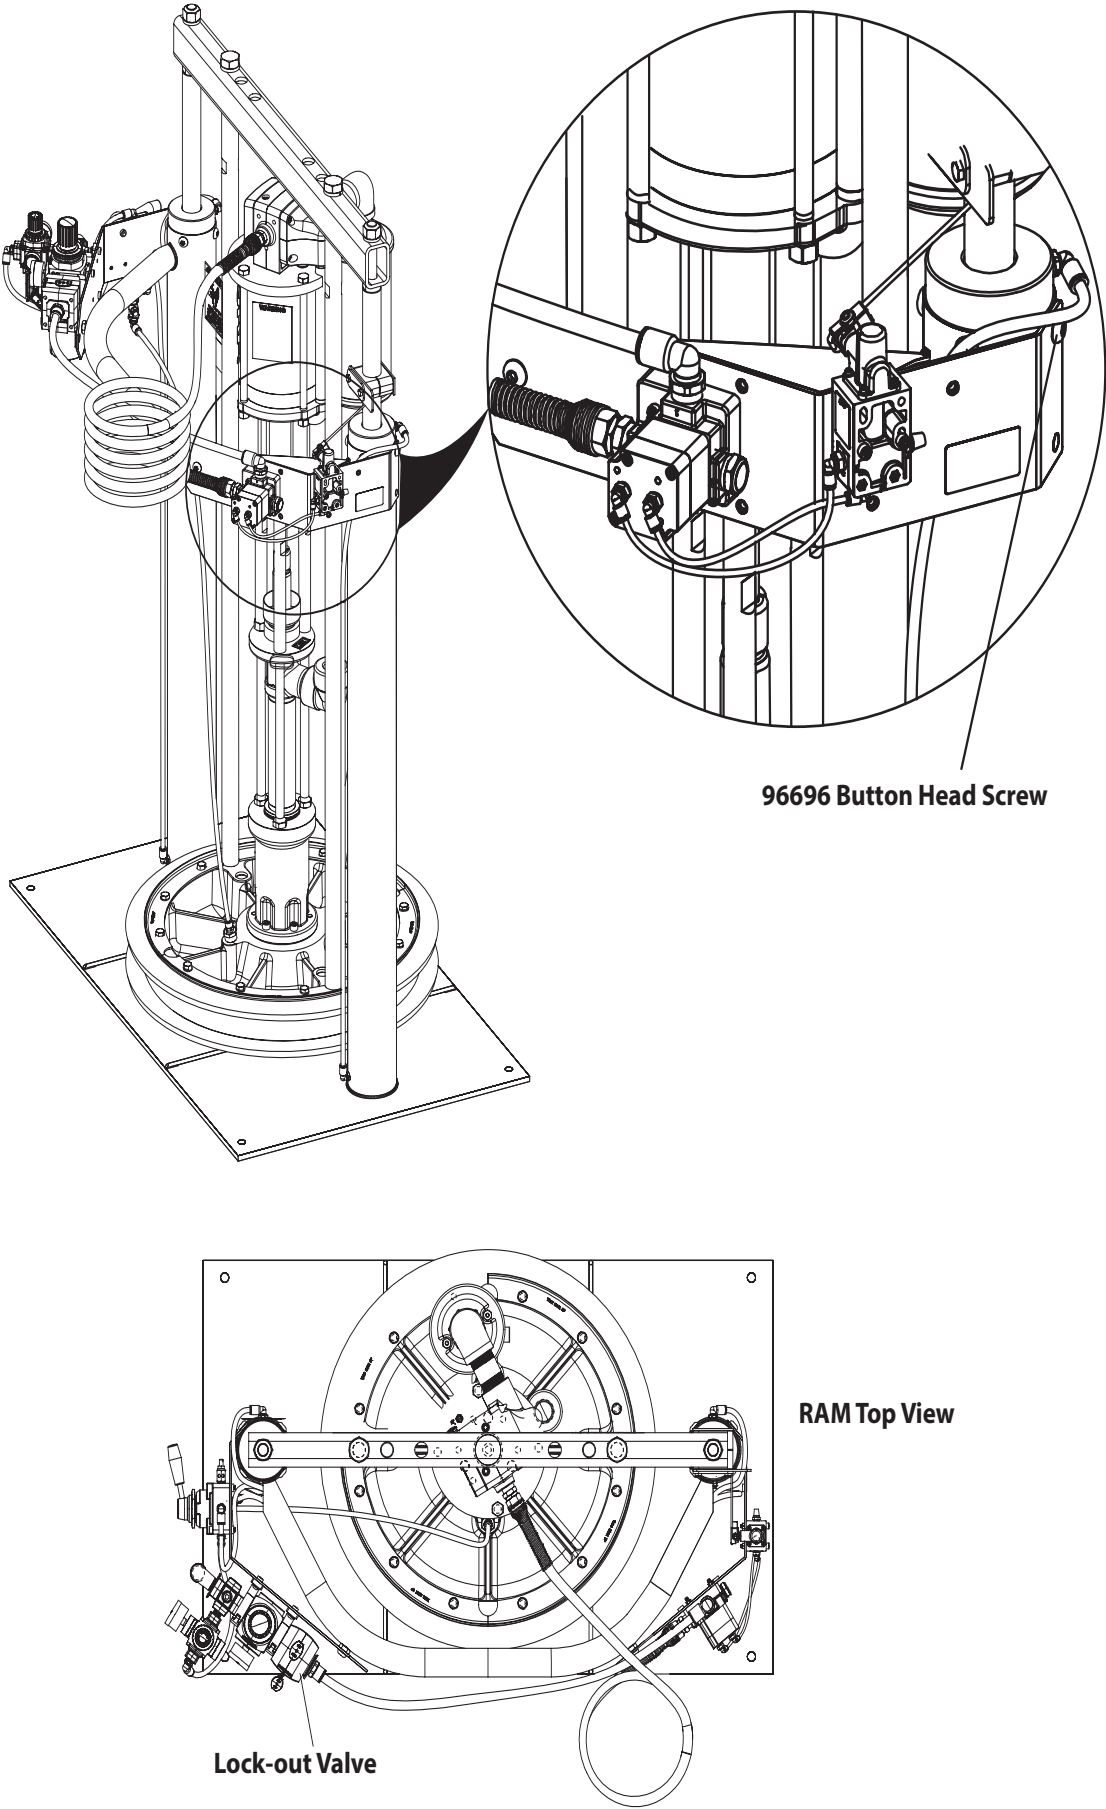

Figure 7
These kits are mounted on the side of the RAM that does not have the Controls (see figure 7, page 5).
2. Attach kit to Ram using (5) Button Head Screws (see figure 7, page 5).
5. Attach the (4) Connector to the Lock-out Valve where the coil hose was attached.
6. Connect the (9) Tubing to the (4) Connector.
7. Connect the other end of the (9) Tubing to the (2) Male Elbow at the Air Supply Inlet (port #1) on the low level cutoff kit.
8. Attach the (15) Lever Rod to the (16) Limit Valve Assembly. Set the (15) Lever Rod to about 30° from horizontal.
9. Attach the (10) Clamp and (7) Switch Plate to the piston rod of the Ram. Locate the (10) Clamp by raising the Ram 2 inches off the plate and set a clearance of 1/4 inch between the (7) Switch Plate and (15) Lever Rod and tighten the clamp.
10. Adjustment of the (15) Lever Rod and (7) Switch Plate may be needed achieve the desired Ram position to turn-off the pump.
11. Lower the Ram to actuate the (16) Limit Valve.